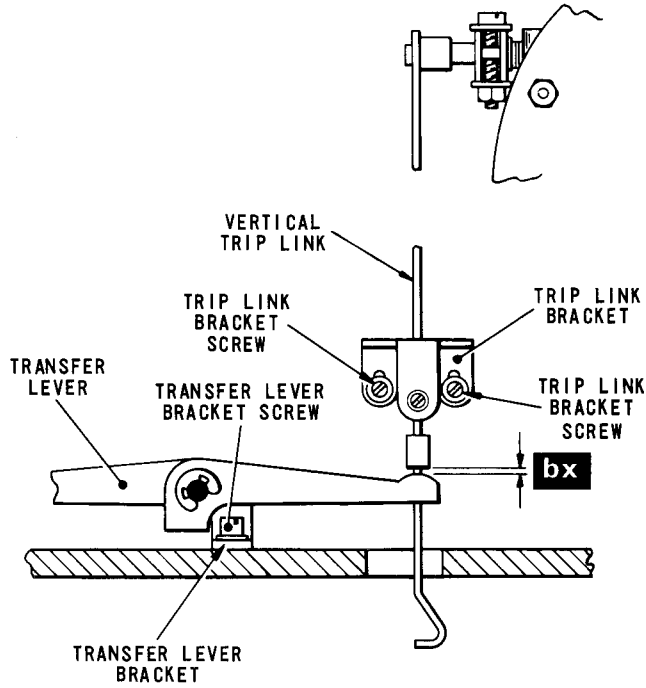

Fig. 4.87 VERTICAL TRIP LINK/TRANSFER LEVER CLEARANCE
- 107.1 With the machine in the rest condition, check that there is a clearance of .005 - .015 in. (dimension 'bx') between the block on the vertical trip link, Fig.4.87, and the transfer lever.
- 109.1 Move the shift lever, Fig.4.53, to the Figures position. Depress the WRU? key and allow the key to remain locked down by its locking bar. Depress the vertical trip link, Fig.4.87, and check that the block on the link passes **behind** the transfer lever with a clearance of .010 - .025 in.